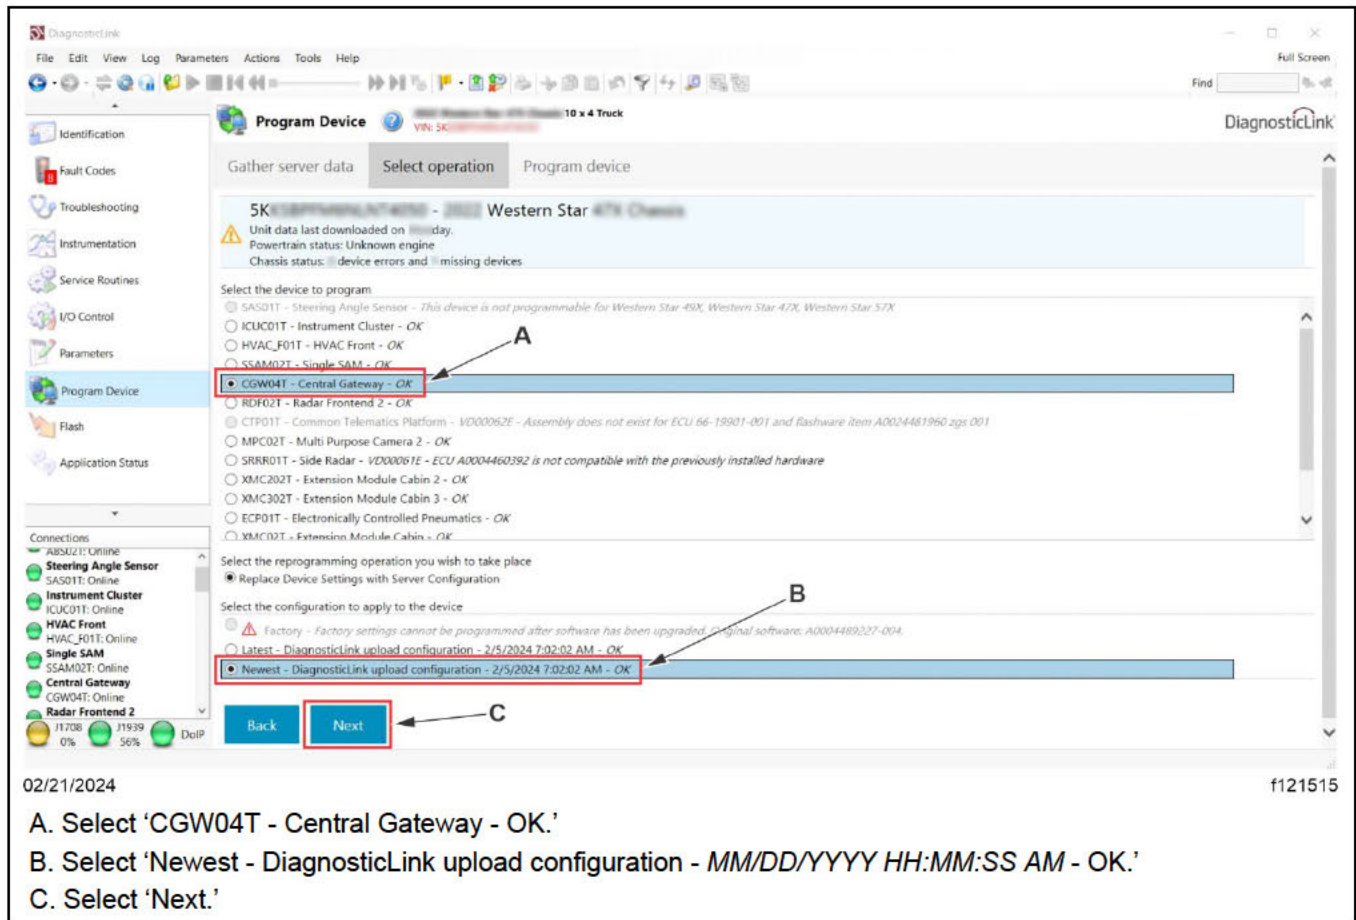

Fig. 5, Selecting the Device Configuration
10. Follow the substeps to flash the CGW04T. See Fig. 5.